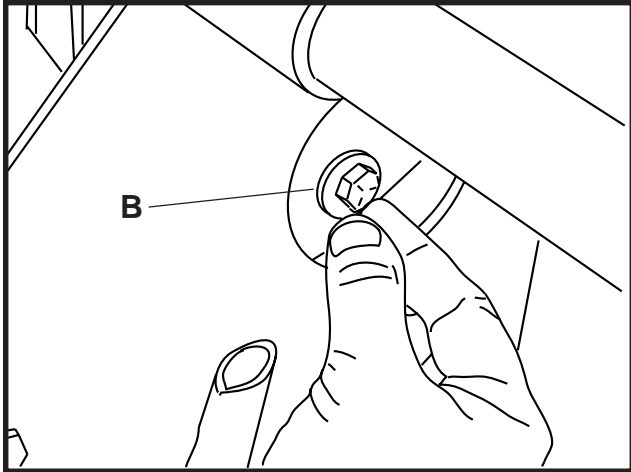

FIGURE 4
- Align jack lift assembly hole "B" with clearance holes in frame and attach jack assembly to bracket on axle using 3/8" x 1 1/2" bolt and 3/8" washers and lock nut. See Figure 4.